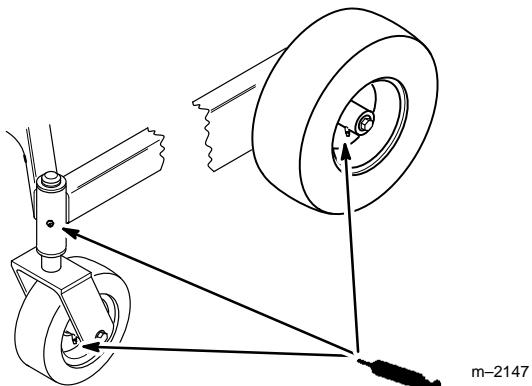

Figure 31
1. Lubricate the wheel bearings and front spindles until grease begins to ooze out of the bearings (Fig. 31).